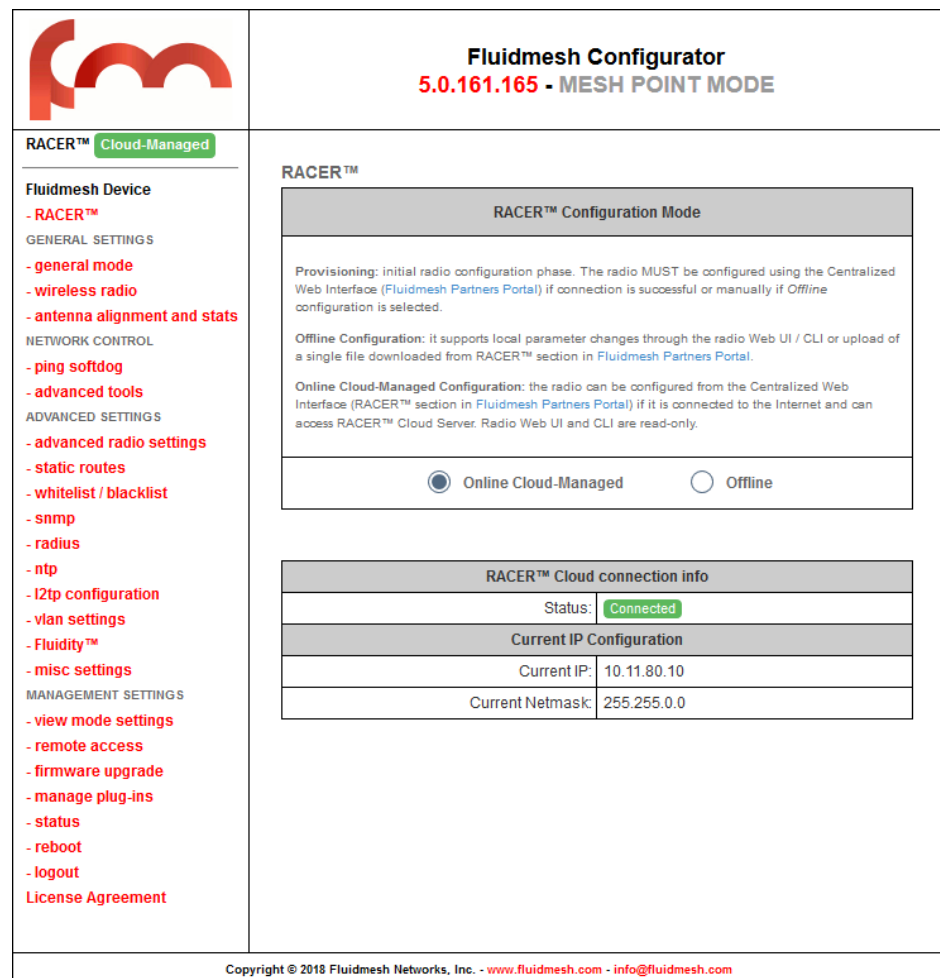

Figure 22. Fluidmesh Configurator (landing page)
- The Configurator landing page will be shown (Figure 22 (page 48)).